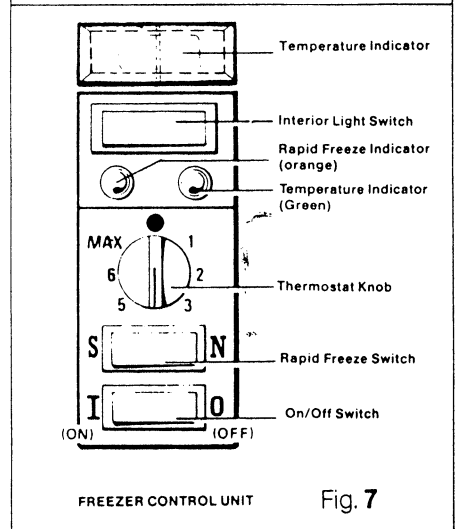

Fig. 7
When the thermostat knob (fig 7) for the freezer section alone is set at 3 a suitable temperature will be obtained (-18° C or below) for the storage of frozen food under most conditions of use. In cold weather, the knob may be turned to a lower number but it must be
Temperature Indicator (see fig. 7)
Indicator Lights and Rapid Freeze Switch (see fig. 7)
- b) Is the freezer on/off switch (fig. 7) switched on?